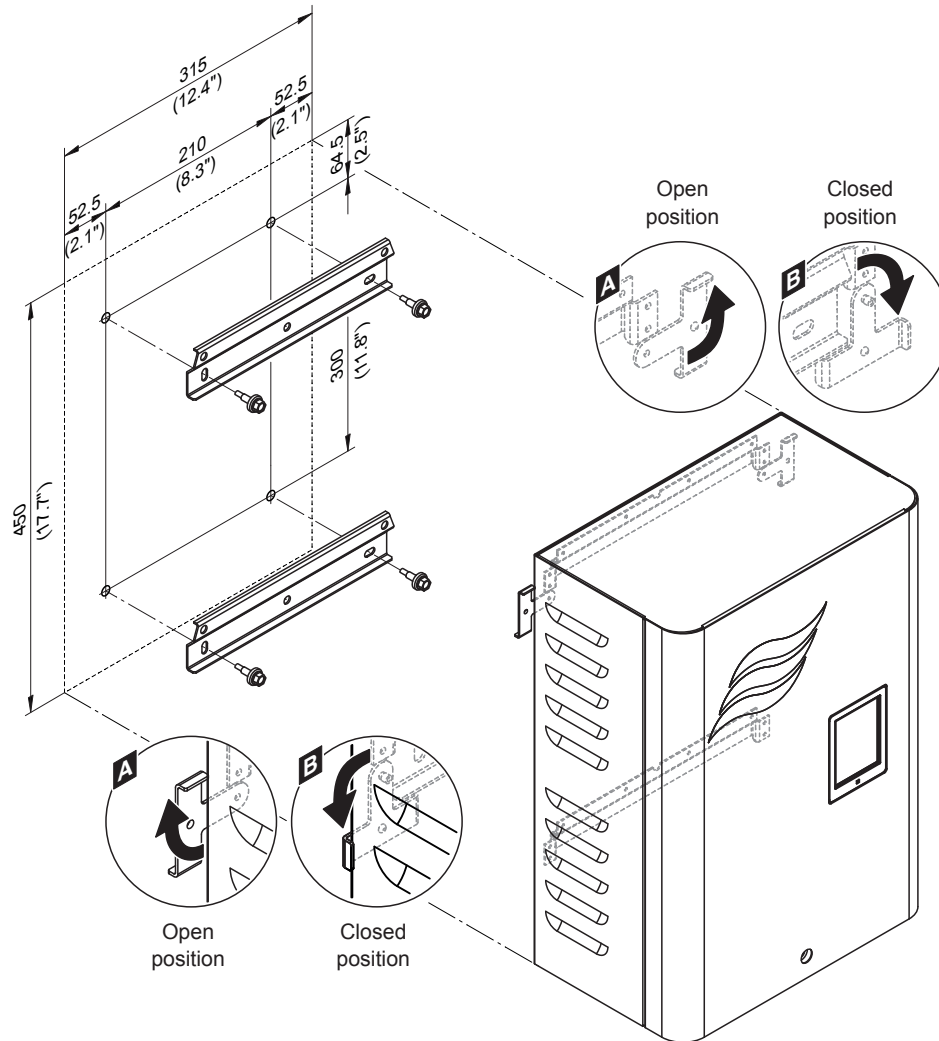

Fig. 34: Mounting the control unit of Condair ME Controls
3. Move the locking hooks on the back of the control unit to open position (see detail "A" in Fig. 34).
5. Move the locking hooks on the back of the control unit to closed position (see detail "B" in Fig. 34) in order to fix the control unit to the upper wall support.